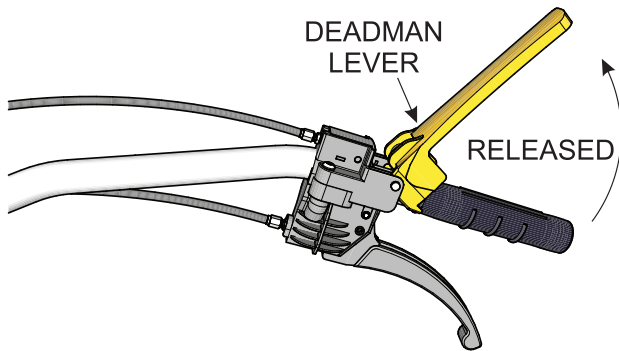

Figure 45. Deadman Lever Released (Disengaged)
5. Release the deadman lever (Figure 45).